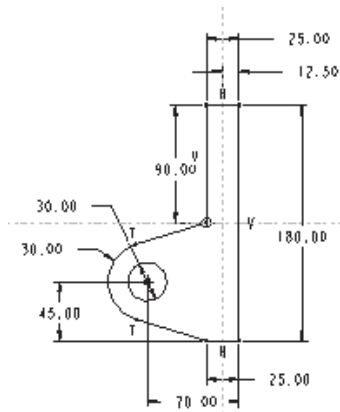

Figure 5-61 Sketch with dimensions and constraints for the base feature
5. Once you enter the sketcher environment, create the sketch of the base feature and apply the dimensions and constraints as shown in Figure 5-61.